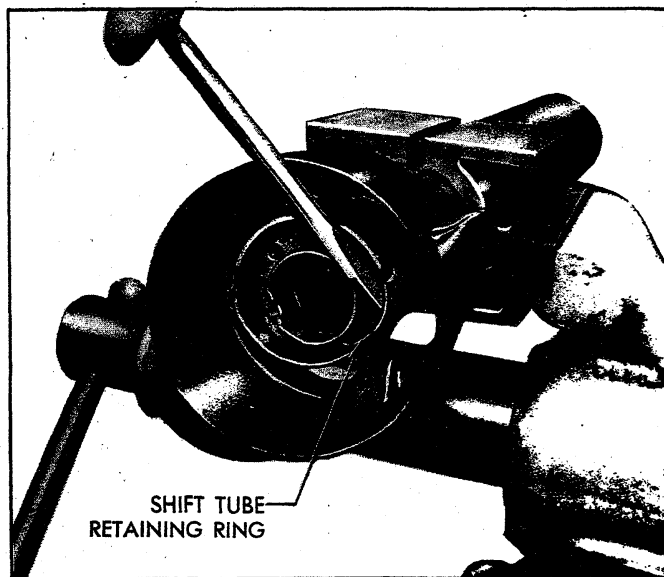

Fig. 42—Shift Tube Retaining Ring and Lower Bushing
19. Remove shift tube retaining ring with a screwdriver. Remove thrust washer (fig. 42).